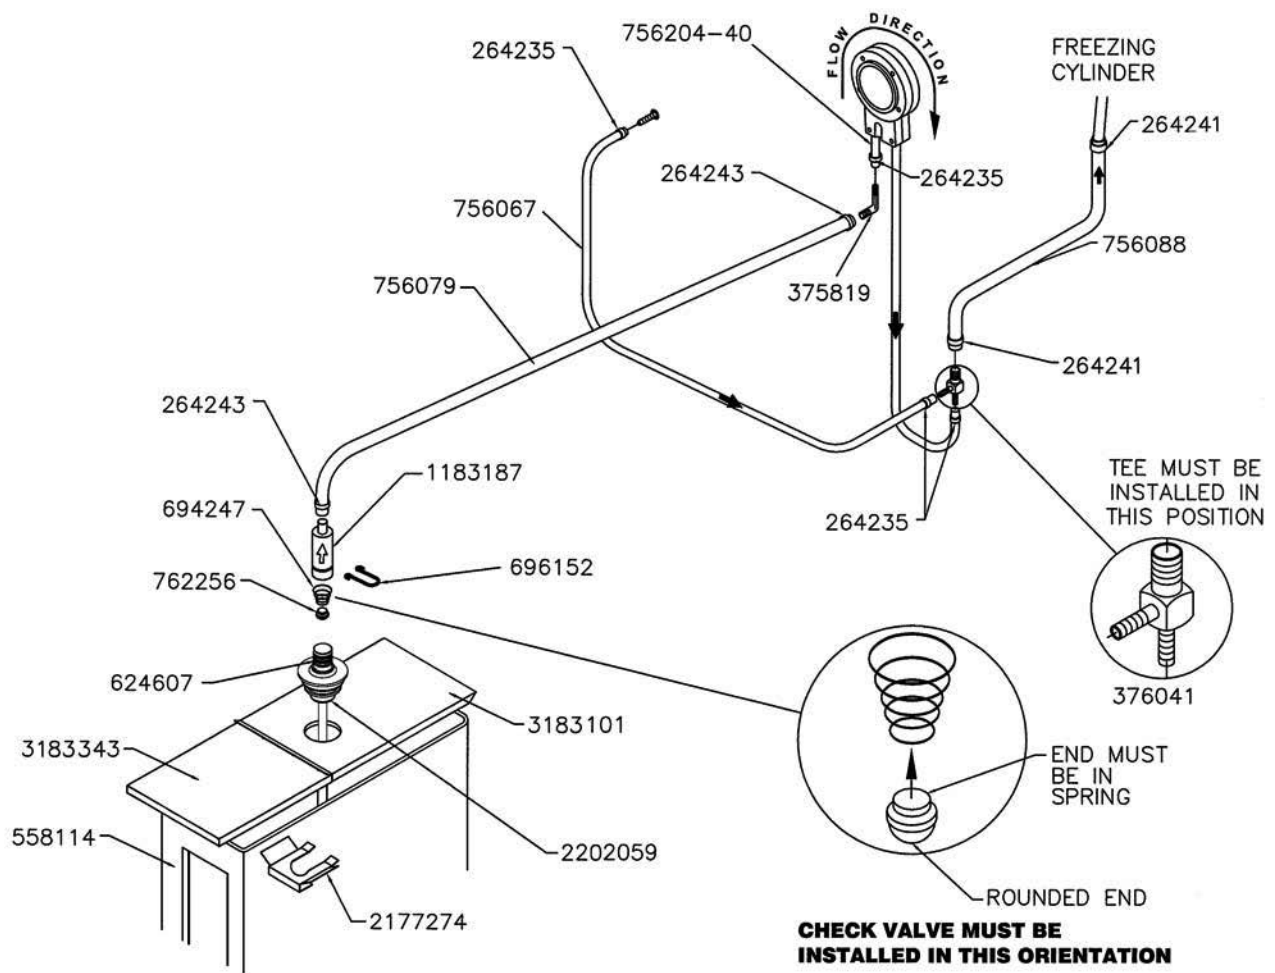

Figure 2-4 Mix Pump Connections for Standard Mix Container
10. Connect free end of mix pump hose to 3-way Tee as shown in Figure 2-4. When all connections are complete the 3-way Tee must be lower than the black pump housing.
1. Connect a 2" (5cm) length of 3/8" (9,5mm) ID plastic food grade tubing to the mix pickup assembly. Secure with hose clamps. Then place assembly through hole in cover and install retaining clip (see Figure 2-4 and 2-5).